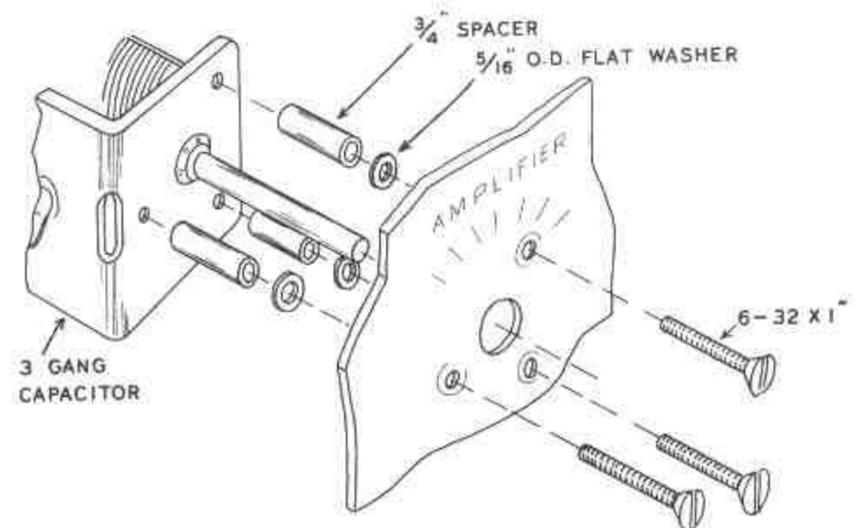

Figure 7
- (✓) Note the position in Pictorial 2 and mount the 3-gang variable capacitor on the panel using the three 1" flathead machine screws. See Figure 7. Insert the screw through the panel, then through a 1/16" washer, then through a 3/4" spacer into the capacitor frame. Bend up the three solder lugs to face horizontally toward the center of the panel.